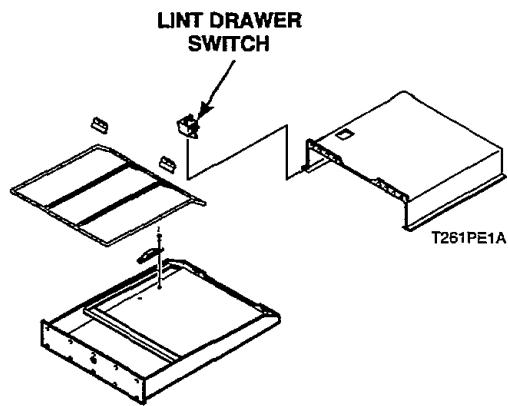

Figure 13
1. Prior to Serial Number DTCK9308000527 (Figure 13).
2. After Serial Number DTCK93080 (Figure 13).